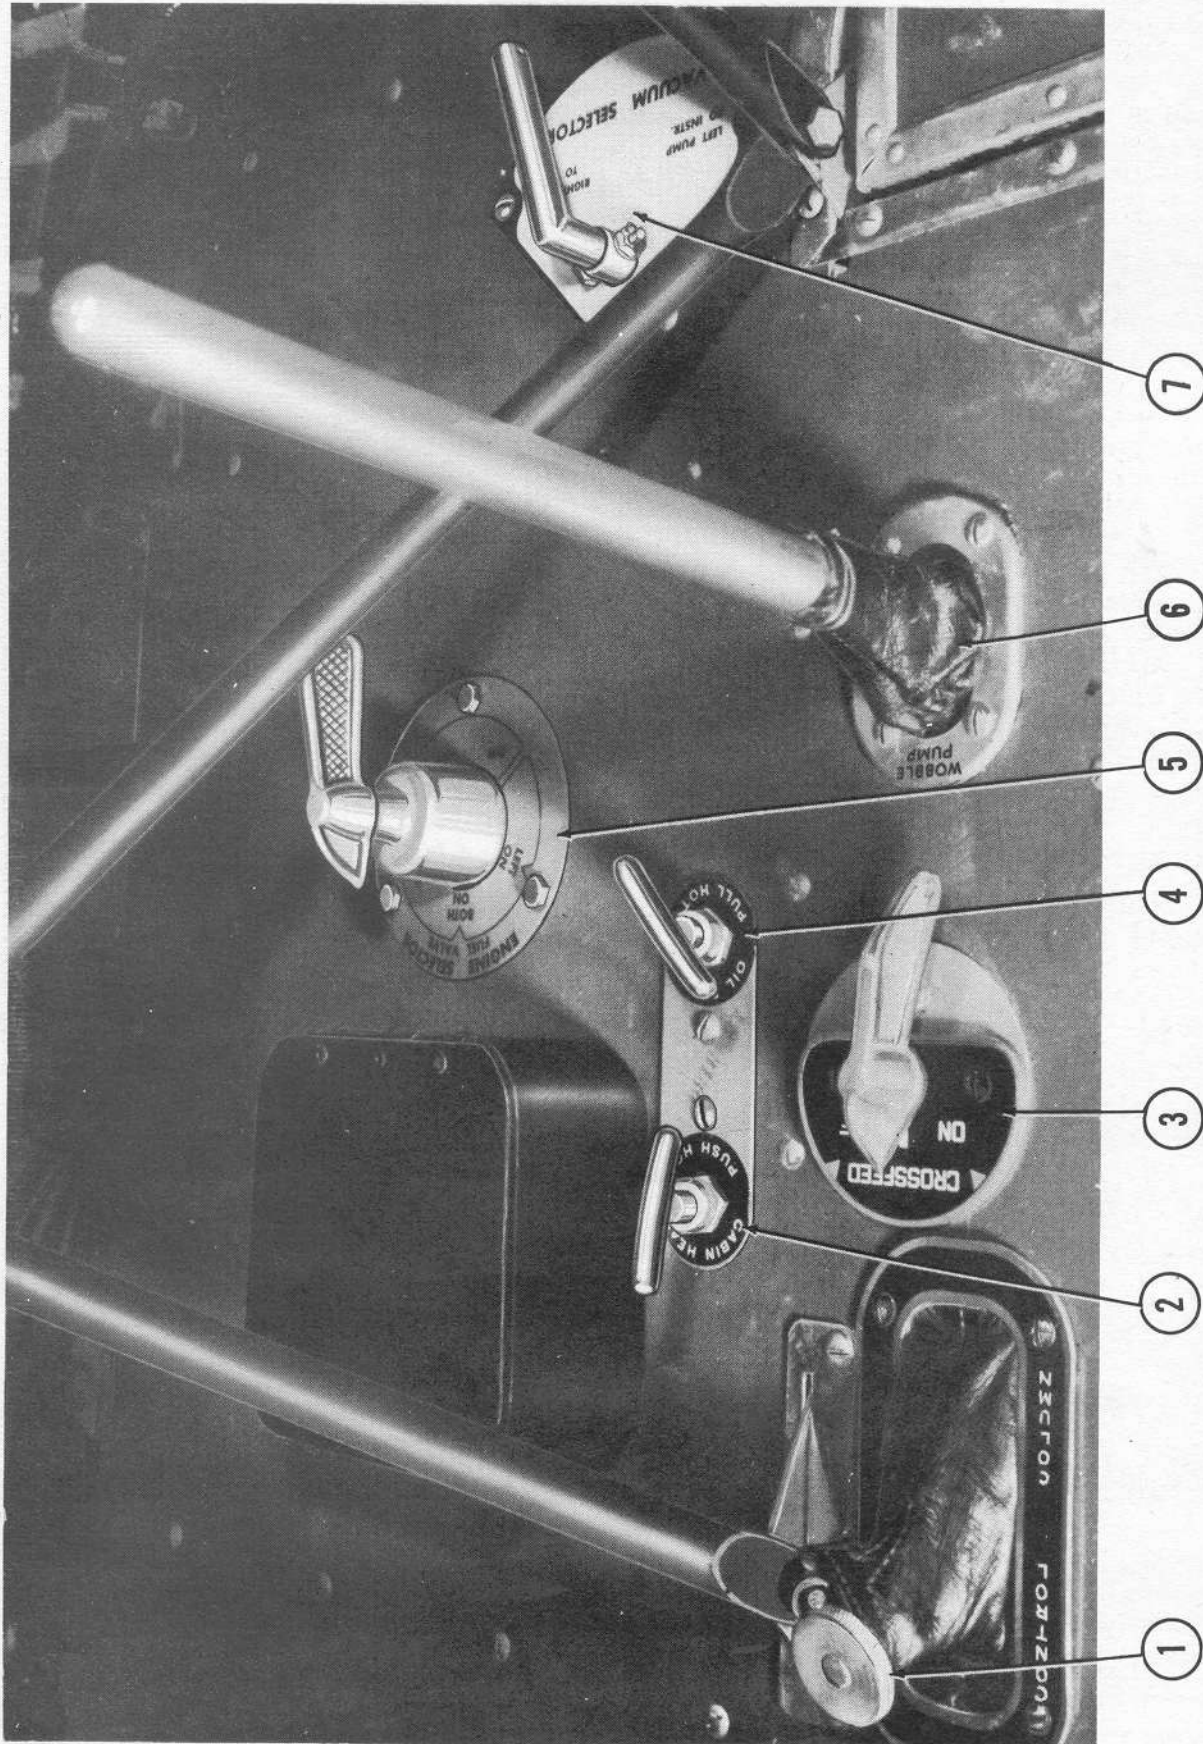

Figure 30—Controls Under Copilots' Seat
b. HOT AIR.—Controls for hot air supply are located on the floor of pilots' compartment, one under pilot's seat and one under copilot's seat. (See figures 30 and 35.) Hot air supply is regulated by pulling out the controls and locking them in desired position. A control is locked by turning to right. Outlets on pilots' compartment floor and just forward of control columns may be turned to regulate direction and supply of hot air in pilots' compartment.
The vacuum selector valve (figure 30) is located under left rear corner of copilot's seat.
pump (figure 30) or wobble pump, is mounted on the floor between pilot's and copilot's seat. It may be used to build up necessary fuel pressure in the fuel system after airplane has been idle; or in event of failure of both engine-driven fuel pumps during flight, hand pump may be operated and flight maintained.
(2) ENGINE SELECTOR VALVE.—The engine selector valve (figure 30) is mounted on pilots' compartment floor under front of copilot's seat. During normal operation of both engines, valve should be turned to "BOTH." In case one engine is inoperative, turn valve to other engine.
(3) CROSS-FEED VALVE.—The cross-feed valve (figure 30) is located on the floor near the wobble pump, between pilot's and copilot's seats. The valve may be used to cross-feed fuel from one engine to the other in case of failure of one engine-driven fuel pump.
(1) **OIL BYPASS VALVES.**—Oil bypass valve controls (figures 30 and 35), used for bypassing oil around the oil cooler in very cold weather, are located on pilots' compartment floor beneath pilot's and copilot's seats. The control under pilot's seat is for left engine oil system and that under copilot's seat is for right engine oil system.
(4) Oil bypass valves (figures 30 and 35) on "HOT" (pulled out) for winter and on "COLD" (pushed in) for summer.
(5) Vacuum selector switch (figure 30) on either engine pump.
(6) Engine selector valve (figure 30) on "BOTH."